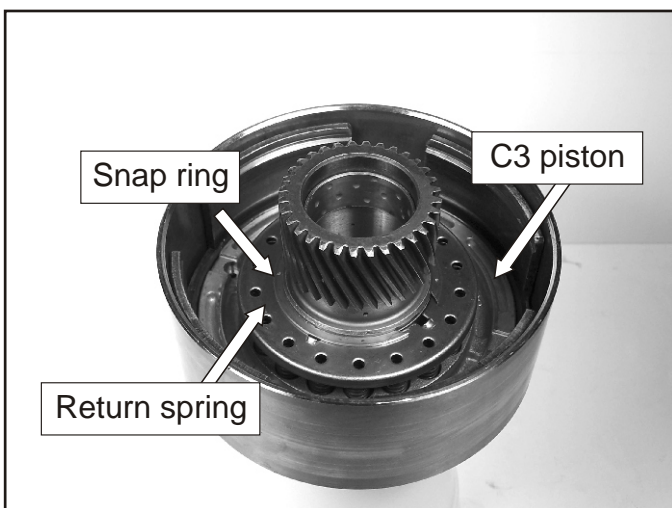

Figure 139
86. Remove the snap ring, C3 return spring assy. and C3 piston as shown in Figure 139.